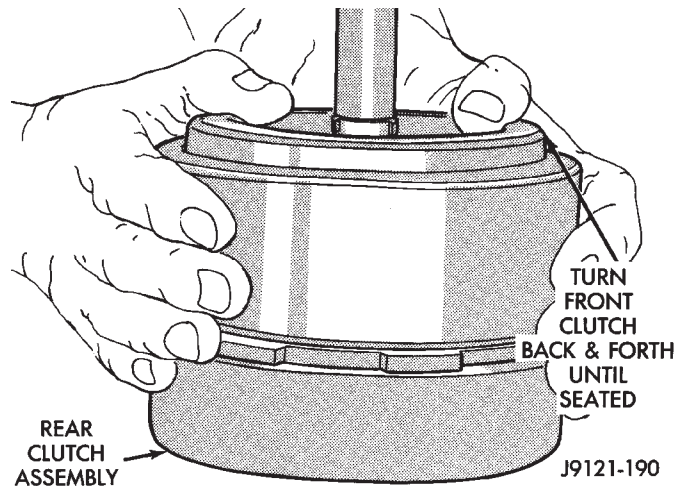

Fig. 148 Assembling Front And Rear Clutch Units
(4) Align clutch discs in front clutch and install front clutch on rear clutch (Fig. 148). Rotate front clutch retainer back and forth until completely seated on rear clutch.